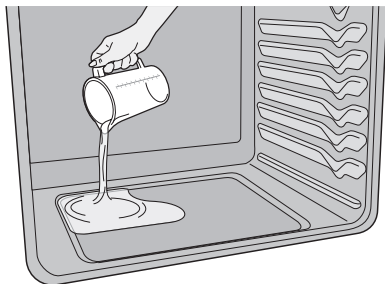

Figure 18: Add 1 cup of tap water to bottom of oven
9. Wipe oven cavity and bottom. Do not clean oven door gasket (Figure 18). Avoid leaning or resting on the oven door glass while cleaning cavity.